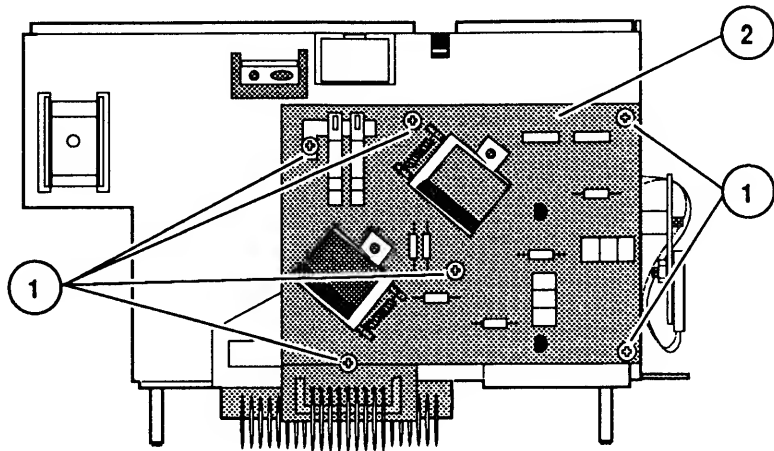

FIGURE 36
2. Remove the Phillips screw (Figure 36, #1) that secures the distribution cover (Figure 36, #2) to the DC power supply. Remove the cover.